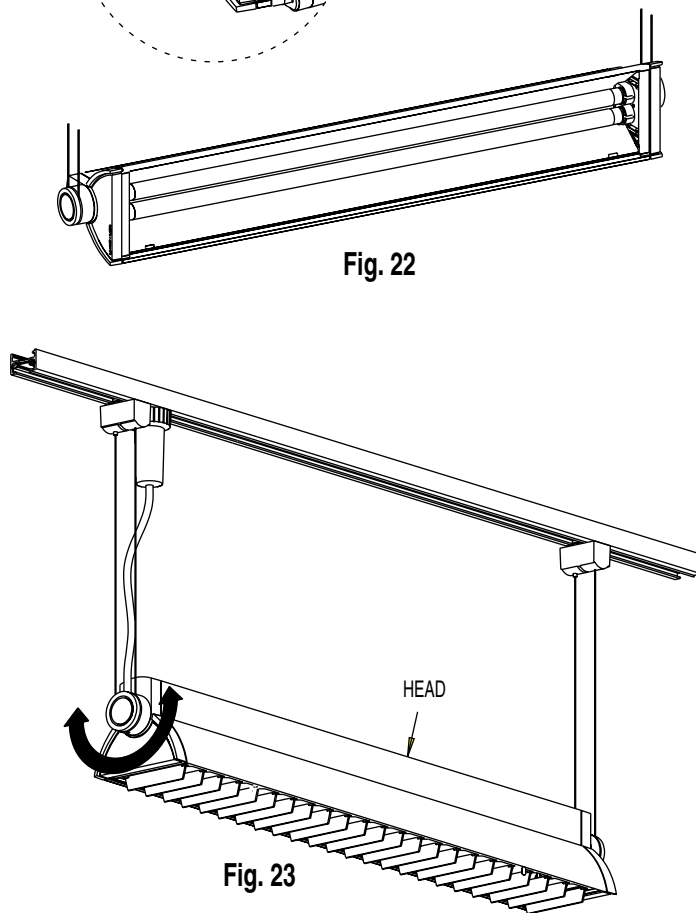

Fig. 23
**AIMING INSTRUCTIONS (see Fig. 23)**